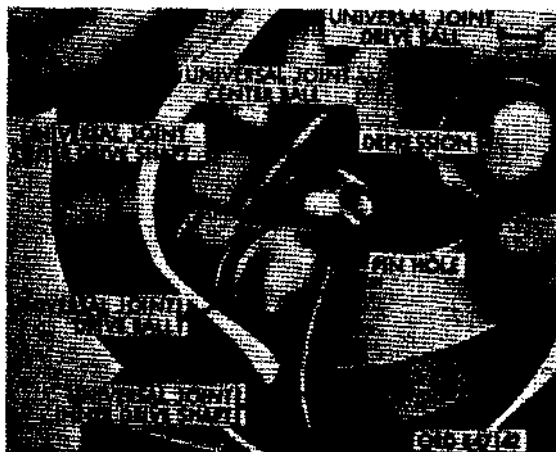

Figure 352. Removing or installing (Bendix) universal joint drive balls
- (6) Remove drive balls (fig. 352). With the universal joint drive shaft assembly in a vertical position, and outer drive shaft up, clamp inner drive shaft in a vise. Swing inner drive shaft to one side and at the same time, raise it slightly to loosen the center ball. Turn center ball with thumb and finger